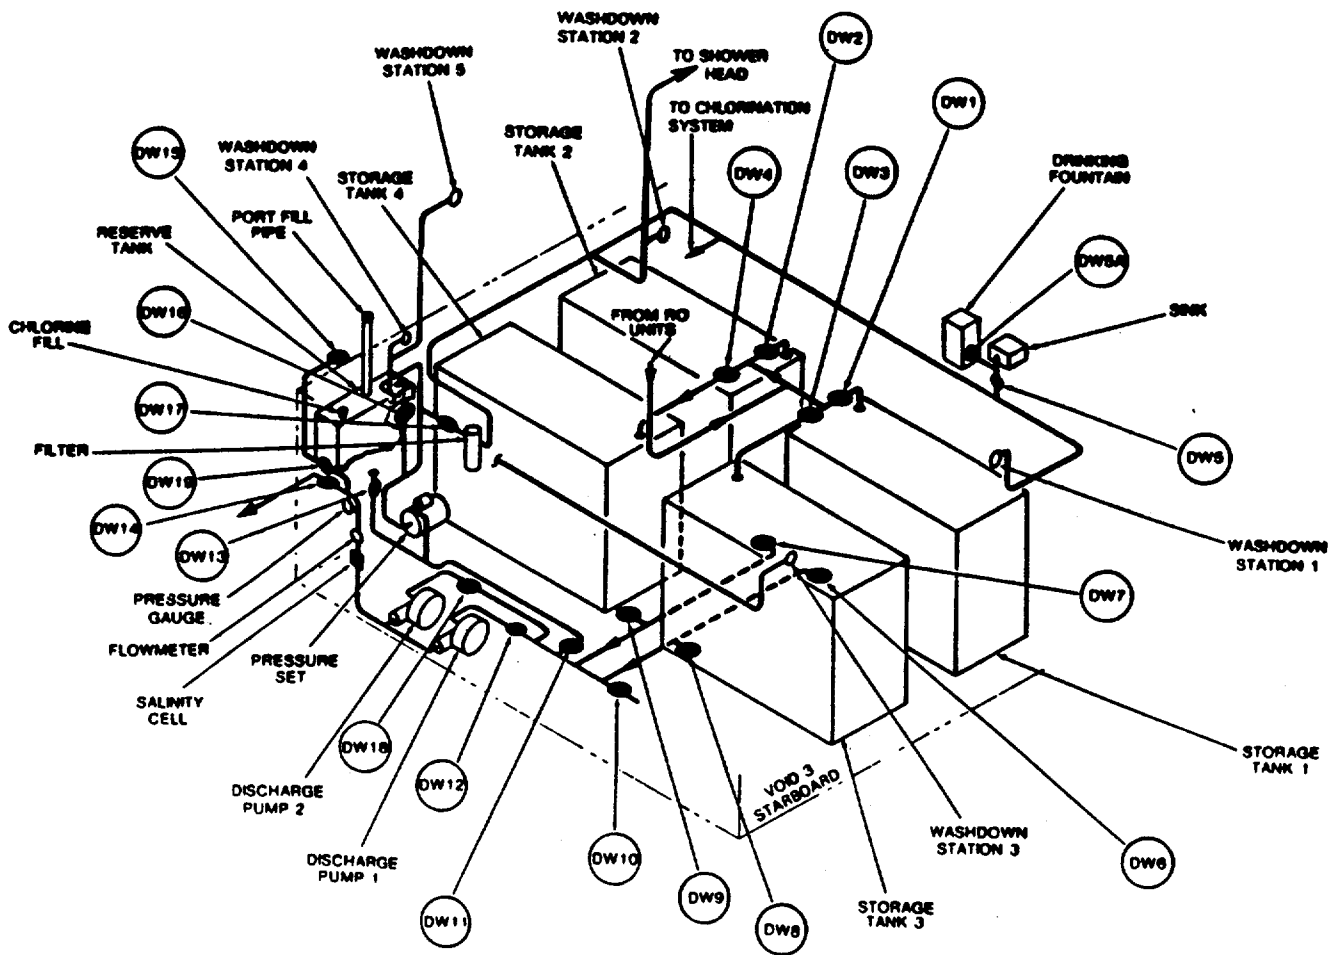

Figure 5-1. Drinking Water System
**5-3 Drinking water system description.** The drinking water system provides storage for water produced by the ROWPU system and discharges it to shore, or another vessel, or for use onboard the barge. The pressure set supplies onboard drinking water to the reserve tank the dayroom drinking fountain and sink, the shower on the forward deck, the four washdown stations in the ROWPU space, the chlorination system in void 2 port, and to the washdown station on deckhouse top (Figure 5-1). The system has a total storage capacity of 15,000 gallons plus 250 gallons reserve and operates in a maximum allowable sea state 3 condition.